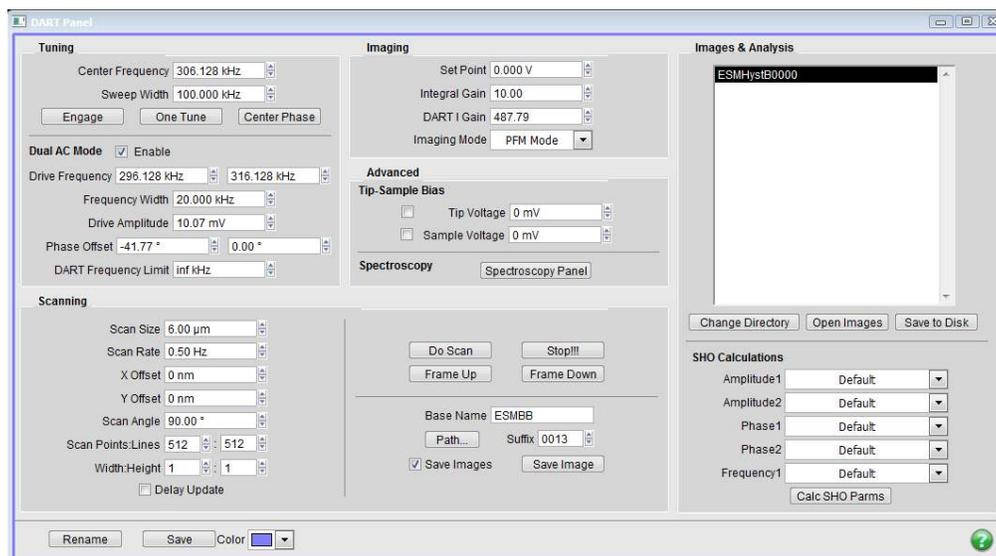

Figure 8.2.: The DART panel
- The DART panel shown in Figure 8.2 on page 101 should appear. If it does not, in the Main menu bar go to *Programming > User Panels*. You should see a list of available panels, including DART. Select it and the panel below should appear.
- In the DART panel (Figure 8.2 on page 101), try a *Center Frequency* of 320 kHz and *Sweep Width* of 100kHz.